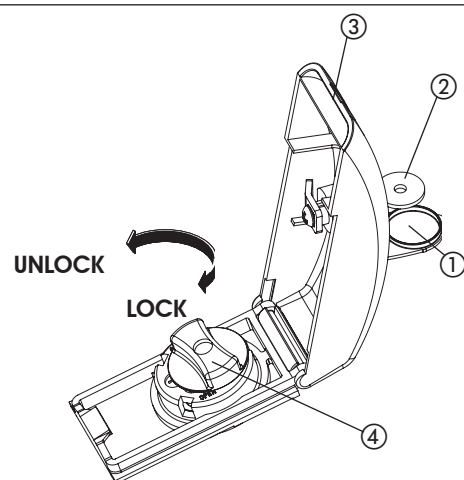

Fig. 16
- Lift the protective plug (Fig. 16, ref ①) and insert the supplied key (Fig. 16, ref ②). Turn it 90° clockwise to unlock the cover.
- Lift up the cover (Fig. 16 ref ③).
- Turn the release knob counterclockwise for about two turns (Fig. 16, ref ④).
- To re-lock the operator, turn the release knob clockwise until it stops (Fig. 16, ref ④).
- Close the cover and turn the key 90° counterclockwise (Fig. 16, ref ②).
- Finally, remove the key and close the protective plug (Fig. 16, ref ①).